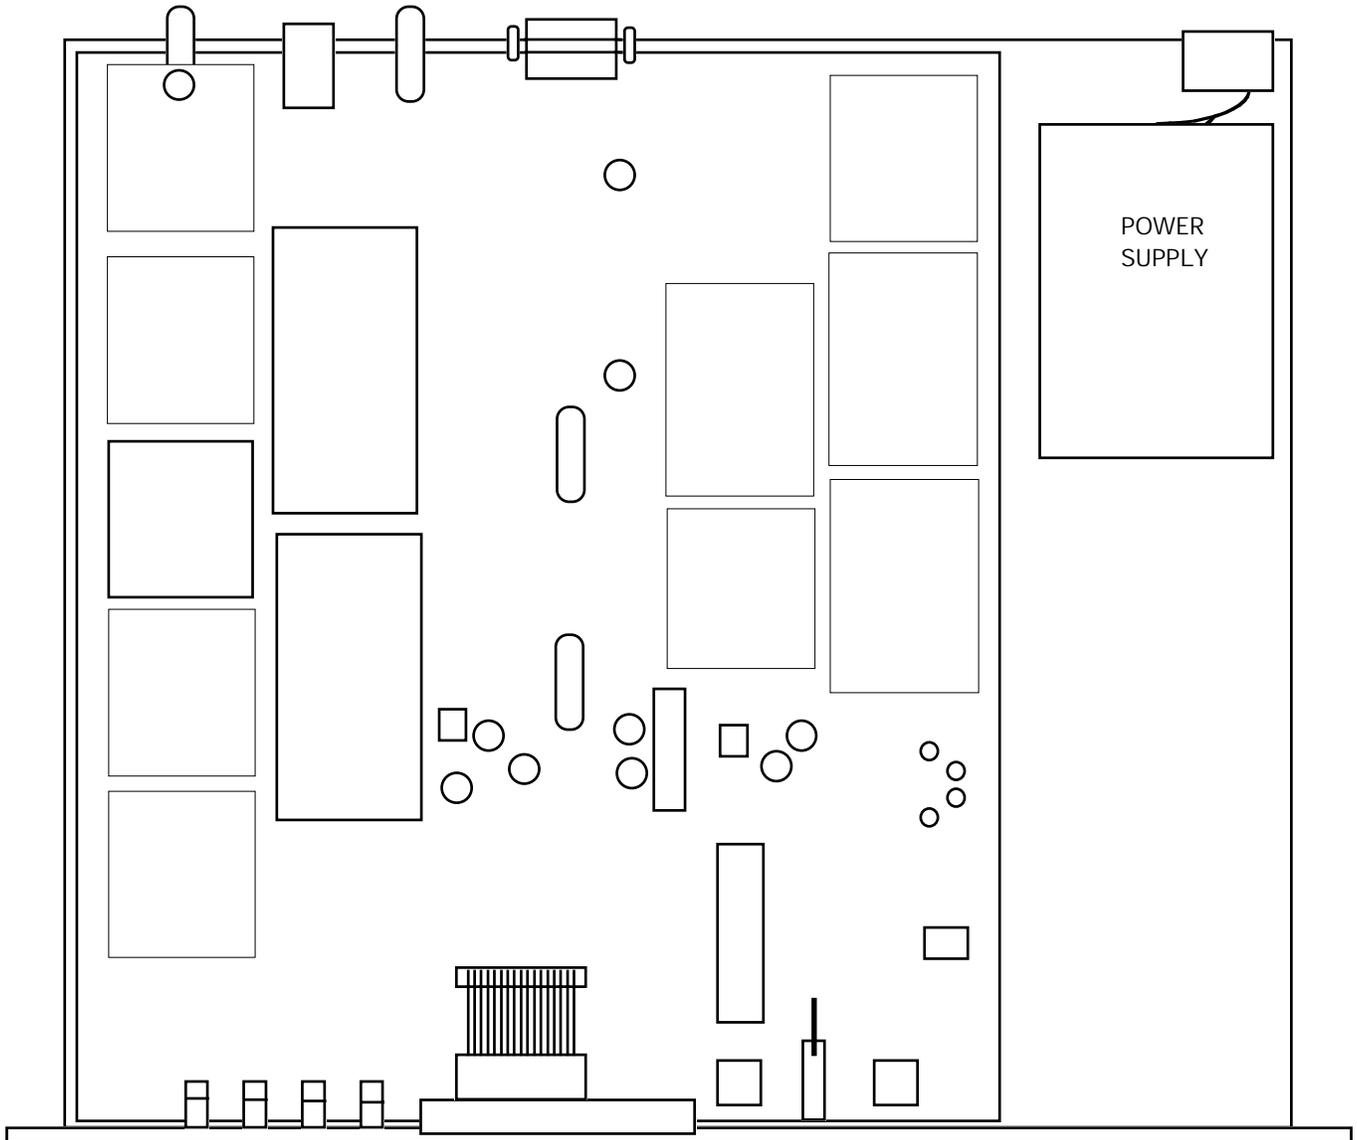

FIGURE 2.1 2015-2026 Mechanical Assembly
2.1 Mechanical - The 2015-2026 consists of one RF/Controller PCB housed in a 1 RU (1 3/4 inch high) by 16 inch deep chassis. A switching, ± 12 , +24, +5 VDC power supply provides power for the assemblies. The 2015-2026 can be secured to a rack using the 4 holes on the front panel. Figure 2.1 shows how the 2015-2026 is assembled.